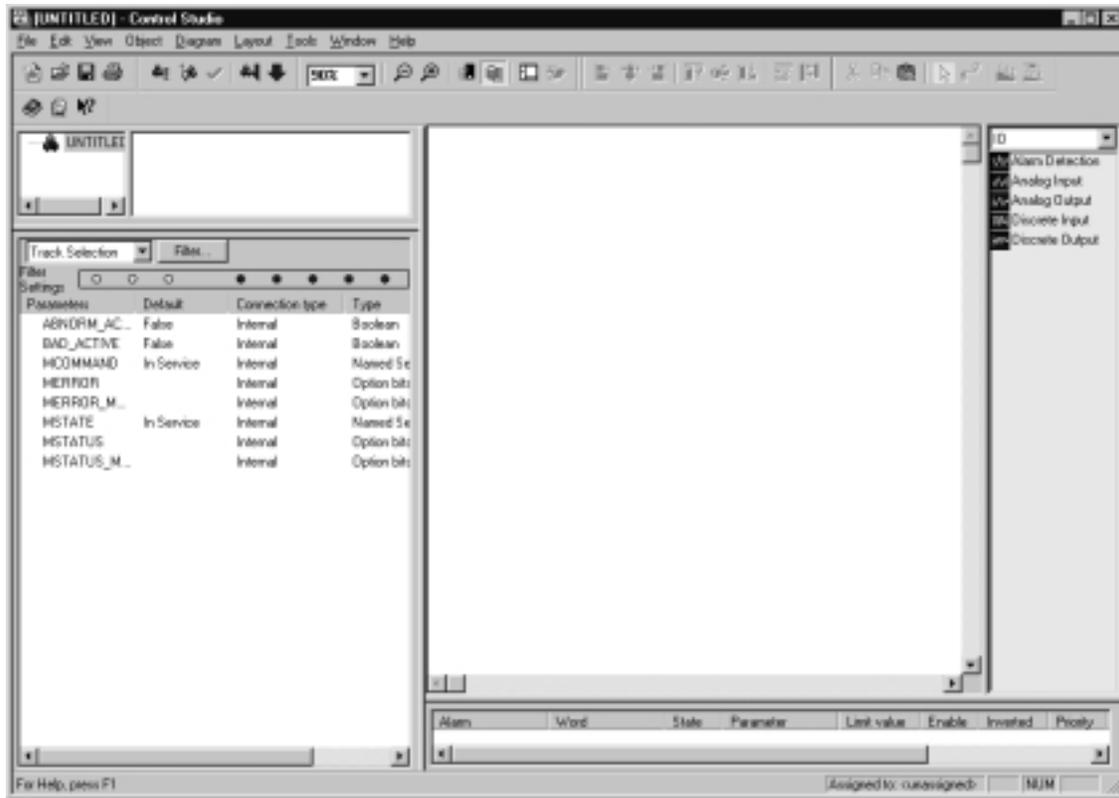

Figure G-5. Main Control Studio Screen
2. Refer to figure G-5. From the menu along the right side of the window, select the function blocks you wish to add. For the purpose of this example, we will add an AI, a PID, and an AO block.
1. Select **DeltaV > Engineering > Control Studio** from the Start menu. The main control studio window shown in figure G-5 appears.